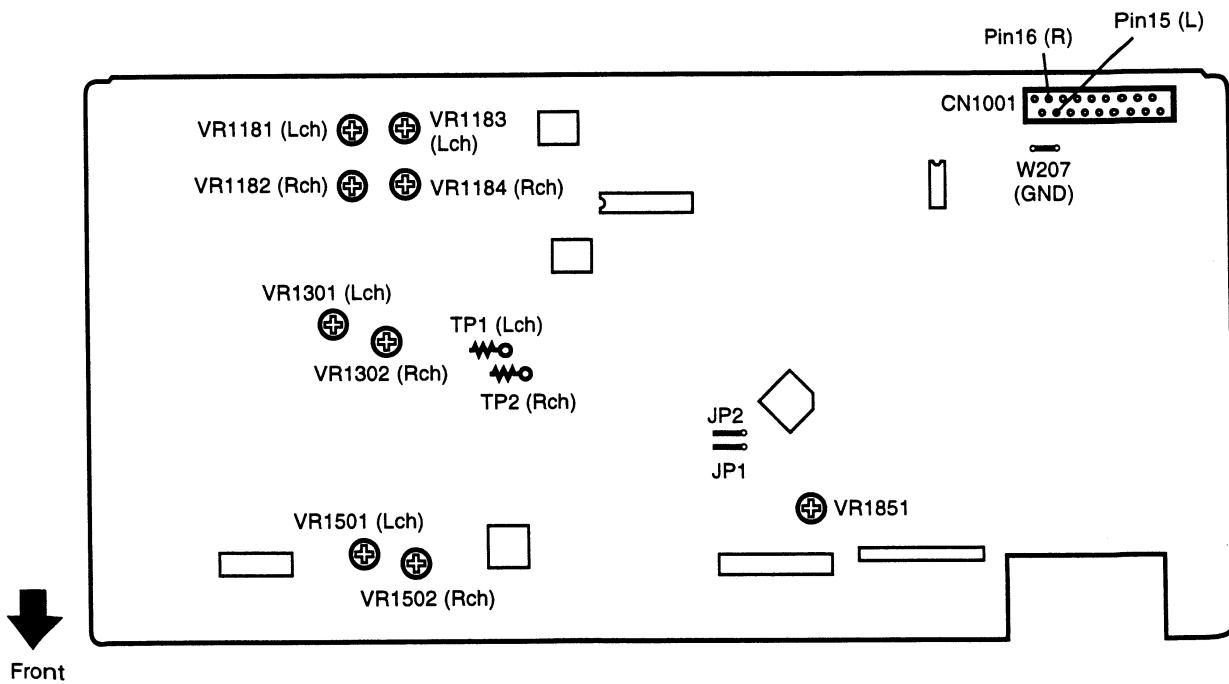

Fig. 2-4 Adjustment and Measurement Points
Switch on the power supply while short-circuit the jumper wires JP1 and JP2 in the TC. MAIN assy (refer to Fig. 2-4), and afterwards disconnect the jumper wires.
- The ground at the time of adjustment shall be W207 (refer to Fig. 2-4).